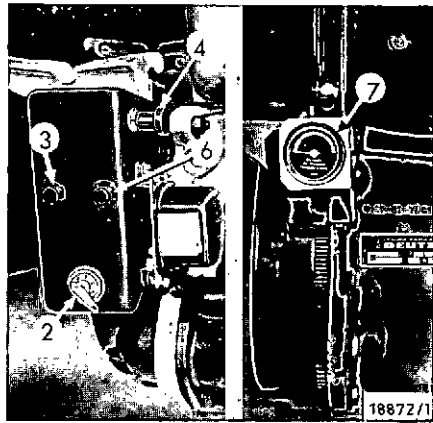

Fig. 10
3. Push in the switch box key 2 (Fig. 10), which should make the red charging indicator lamp 3 light up.
6. An oil pressure indicator lamp 6 (Fig. 10) or an oil pressure gauge can be supplied as an extra. During operation, the pointer of the oil pressure gauge must be in the green field. If it drops to red*, or if the green oil pressure indicator lamp lights up, the engine must be shut down immediately. Trace the cause of the low oil pressure with the aid of the Trouble Chart and remedy.
6. An oil pressure gauge 7 (fig. 10) can be supplied as an extra. During operation, the pointer of the oil pressure gauge must be in the green field. If it drops to red*, the engine must be shut down immediately! Trace the cause of the low oil pressure with the aid of the Trouble Chart and remedy.
1. Disengage driven equipment. 2. Place speed control lever to $\frac{1}{2}$ speed. 3. Insert switch box key 2 (Fig. 10) as far as it will go. 4. Pull heater plug/starter switch button 4 to the first stop and keep here for about 30 to 60 seconds and 1 to 2 minutes at low temperatures in winter. 5. Pull button of heater plug/starter switch as far as it will go and hold it there until the engine starts firing. If the engine is not running smoothly, keep heating in position 1 for a little while before releasing the button (returns by itself to initial position). Do not operate the starter motor for more than 10 seconds at a time. Only when starting attempt is assisted by some firing, the attempt may be sustained for 20 to 25 seconds. Intervals between starting attempts should be 2 minutes or so, enabling the battery to recover.